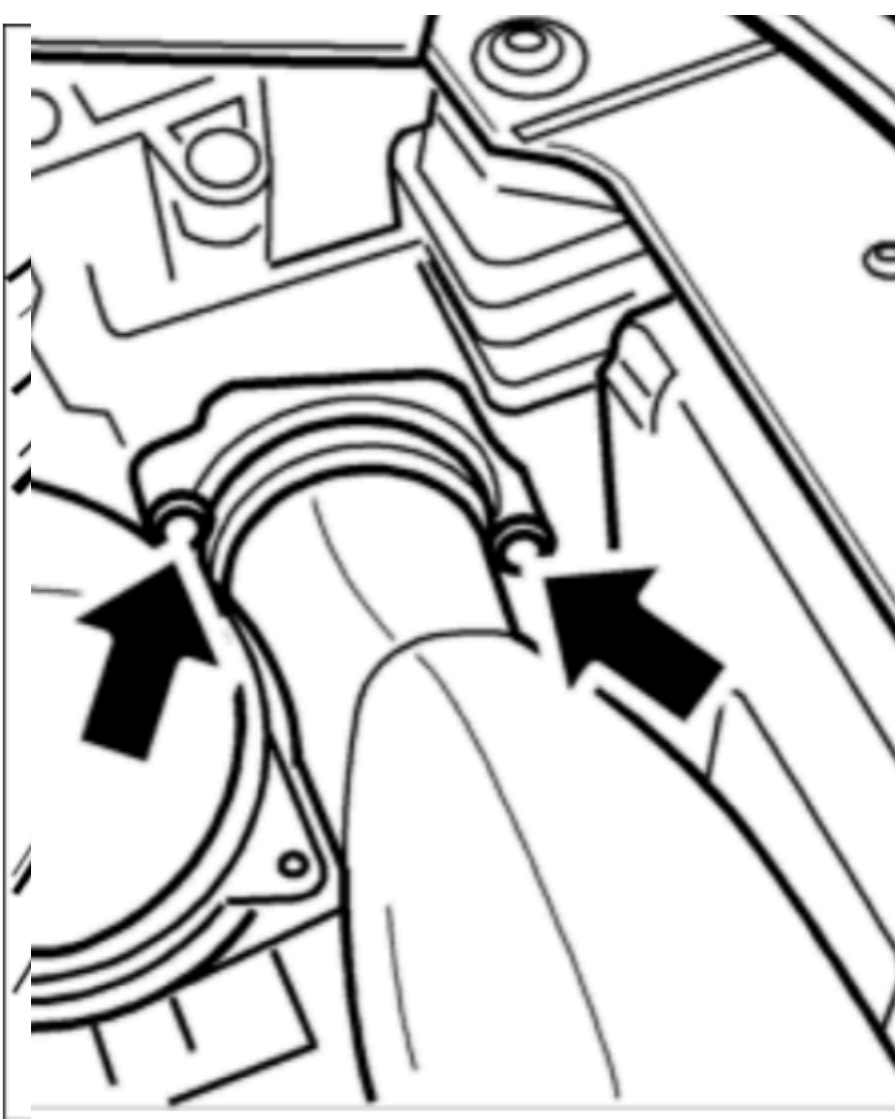

Fig. 49: Mount for pressure pipe
4. Unscrew the two hexagon socket head bolts (M6 x 20) on the pressure pipe **-arrows-** and pull off pressure pipe. See **Fig. 49**.